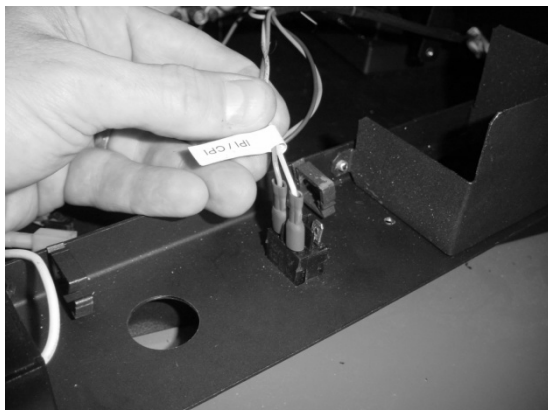
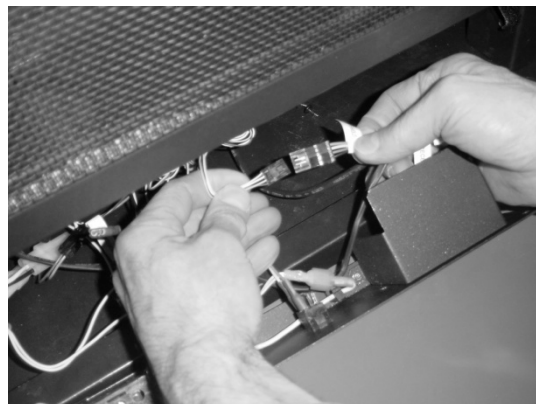

Figure 19
Figure 20
- Attach the blue and white wires to the IPI/CPI switch (see Figure 19). Connect the wiring harness to the stepper motor (see Figure 20).